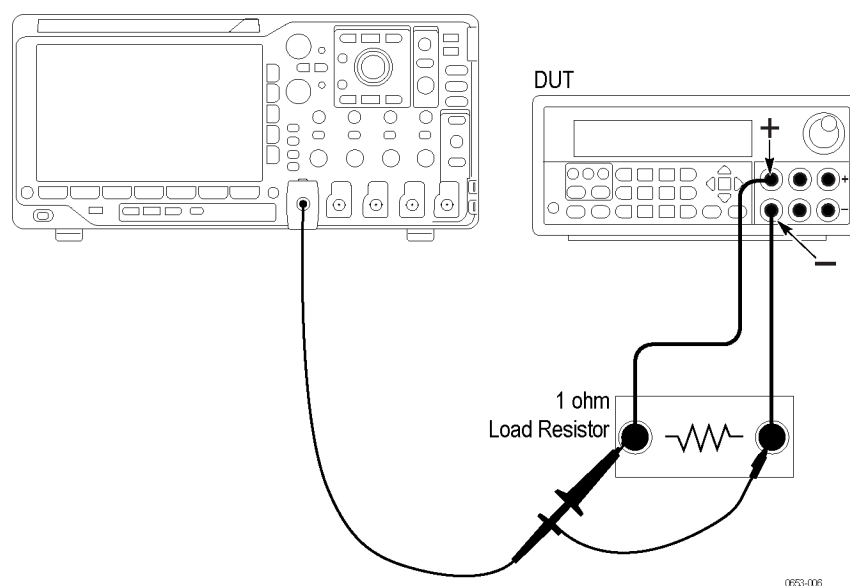

Figure 9: 20 MHz current noise test setup. The channel 1 test setup is shown.
4. Set up the equipment as shown. (See Figure 9.)